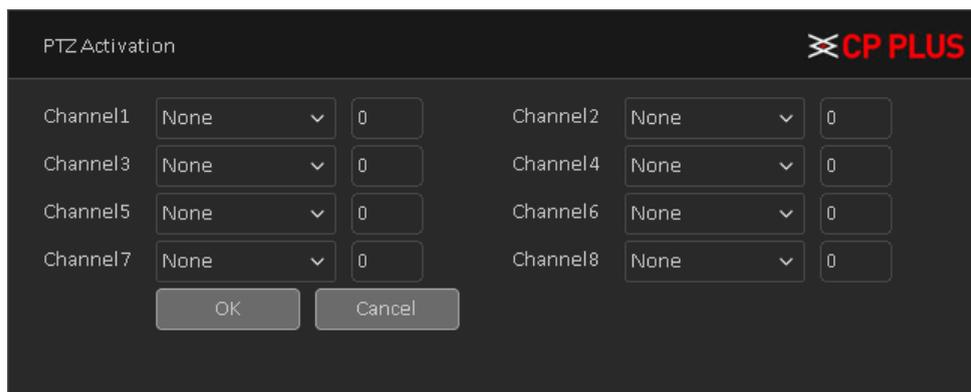

Figure 4.20
- **[PTZ Activation]** Here user can set PTZ movement when an alarm occurs. Such as go to preset, tour & pattern when there is an alarm. Click "Setup" button, user can see an interface is shown as in Figure 4.20.